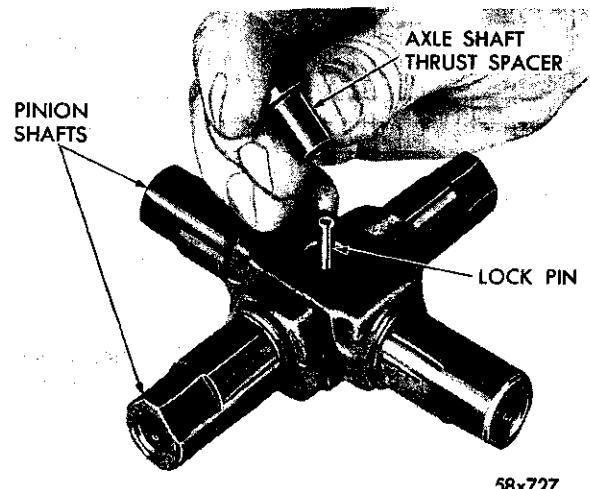

Fig. 42—Installing Axle Shaft Thrust Spacers
(3) Place the aligning pin through one axle shaft thrust spacer. Assemble the pinion shafts on aligning pin.
(4) Place the pinion gears on shafts and install the assembly on the drive gear half of the case. Insert the thrust spacer in the pinion shaft (Fig. 42).
(5) Slide the cap half of case over the edge of bench far enough to insert one finger up through the assembly to hold it together. Place the assembly on the drive gear half, matching the scribe marks.
(6) Make sure the markings on each differential case half coincide. Install the differential case bolts and turn them in a few threads.
(7) Insert the axle shafts from the vehicle to align the splines. Make sure the axle shafts engage the